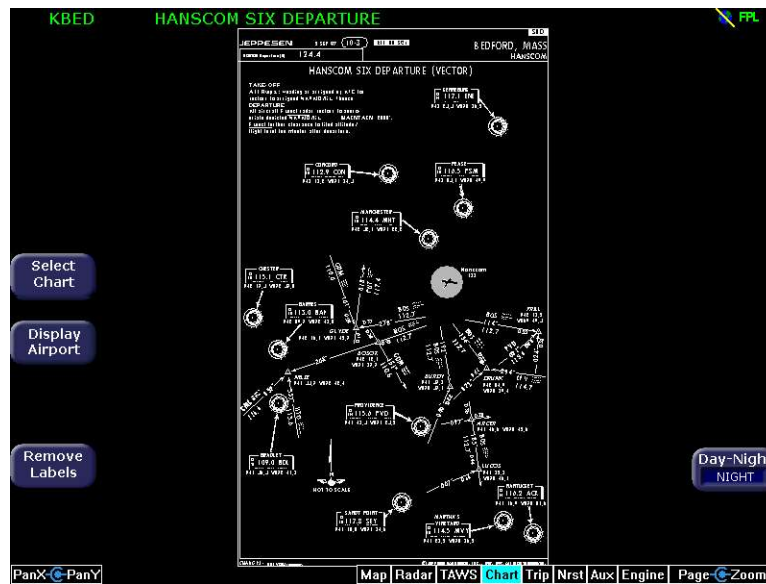

Figure 6.6 Airport Departure Chart (Night View)
- 11) **Day/Night**—Toggles the chart display mode between the Day (black text on a white background) and Night (white text on a black background) modes. Other colors such as water or shaded terrain are also adjusted between Day and Night modes. See Figure 6.6 on page 61 for an example of a chart in Night Mode.
Charts that cannot be split into smaller sections are shown as a complete chart, as shown in Figure 6.6, with the View button not displayed, since only one View type is available.